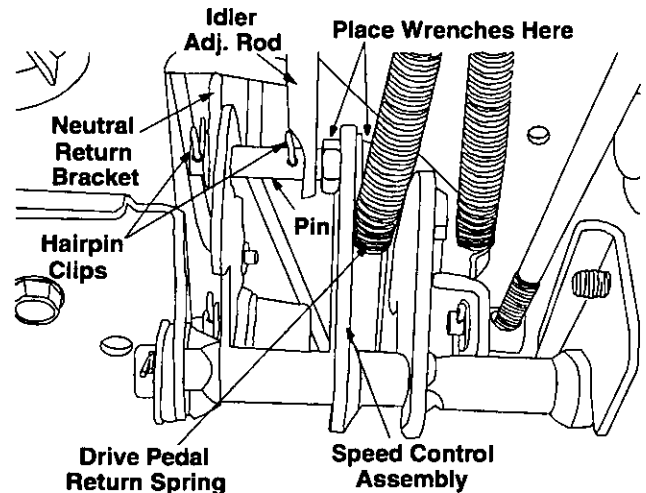

Figure 19
- Locate the speed control assembly on the underside of the steering support bracket. See Figure 19.
- Remove both hairpin clips from the pin which is fastened to the speed control assembly (be careful not to lose the small flat washers found on the pin). See Figure 19.
- Using two 9/16" wrenches, remove the pin from the speed control assembly. See Figure 19.